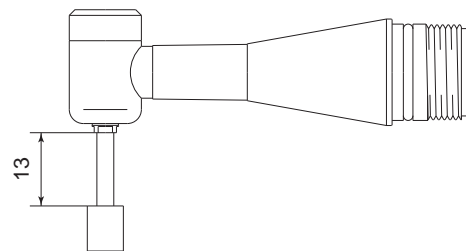

Fig. 1
- Do not exceed 13mm of overhang for mounted grindstones as shown in Fig. 1. If the overhang must exceed 13mm, reduce the motor speed in accordance with Table. 1.